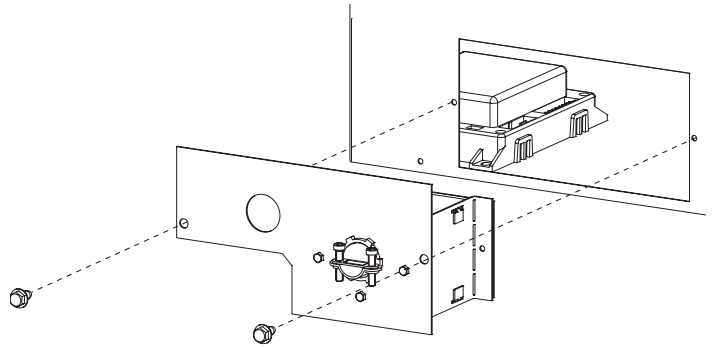

Figure 39
2. Remove the electrical access cover panel from the left end of the fireplace. **See Figure 39.**
5. Re-install the junction box into the firebox using the screws removed in step 2. **See Figure 39.**